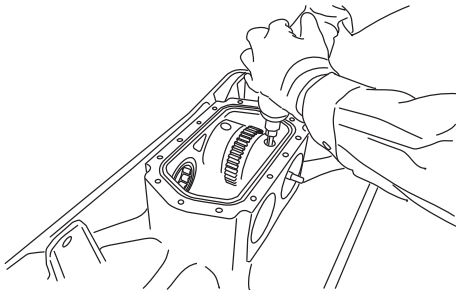

Fig.8-37
n. Assemble the eccentric rotor (18) to the driven shaft by tightening the bolt (19). (Fig.8-37)